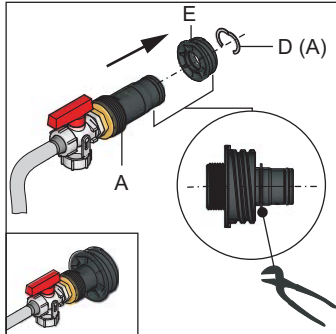

Fig. 5-3 Complete KFE filling connection
- Insert the **KFE filling connection** into the threaded piece (fig. 5-3, item E) and secure it using a clamping piece (fig. 5-3, item D).